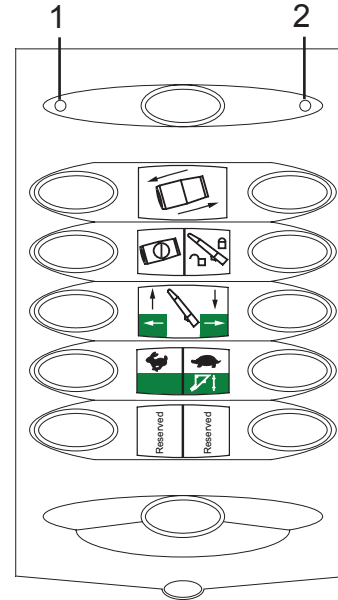

Figure 151
1. The Battery Low (Figure 151, Item 1) and Active (Figure 151, Item 2) LED indicators on the transmitter are used to indicate the status of the transmitter (transmitter for Traditional Controls used for illustrative purposes).